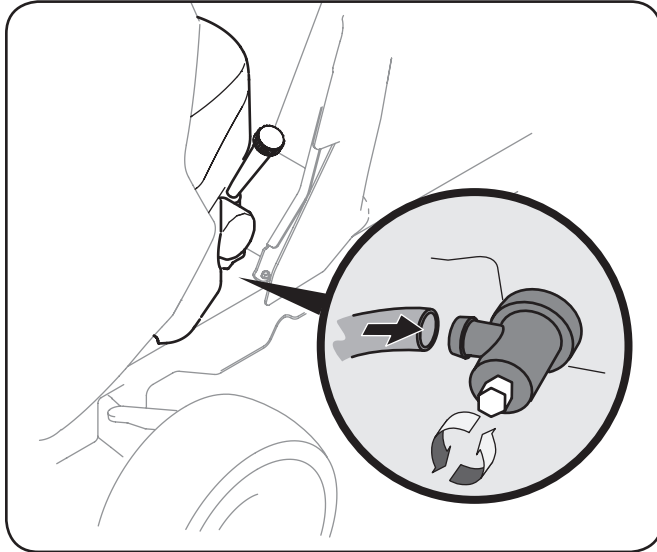

Figure 6-1
5. Open the oil drain plug by loosening the bolt on the side of the plug. See Figure 6-1.